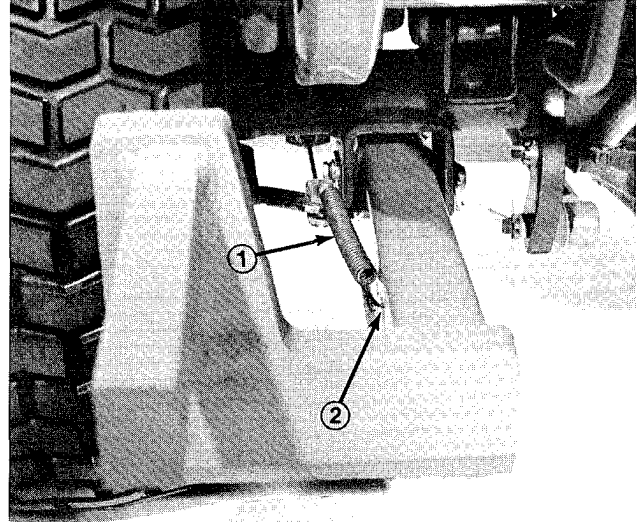

Figure 3
4. Connect right and left brake return springs to the brake arms and deck brackets (Fig. 3).